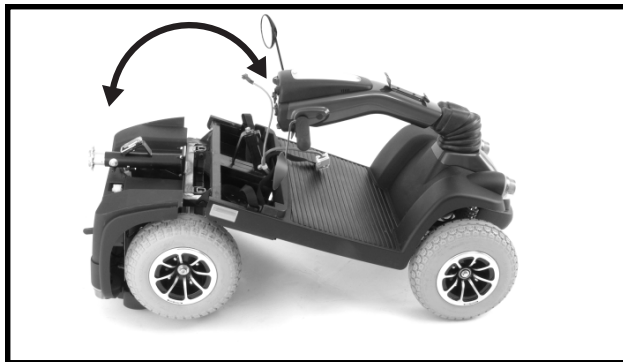

Figure 18. Frame Positioning
1. Push back on the seat post to pivot the scooter's rear section rearwards until the rear section is standing vertically on its bumper. See figure 18.
3. Holding the seat post, slowly pivot the rear section forward until the curved locking brackets are fully connected onto the top rear pegs. See figure 18.